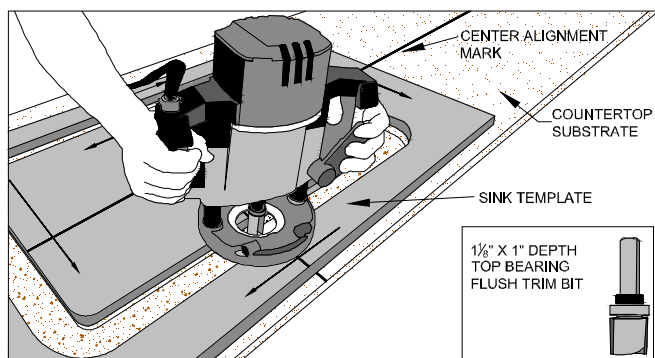

Figure 9D
- Remove all substrate for this routing depth between the two part templates. (FIG. 9D)